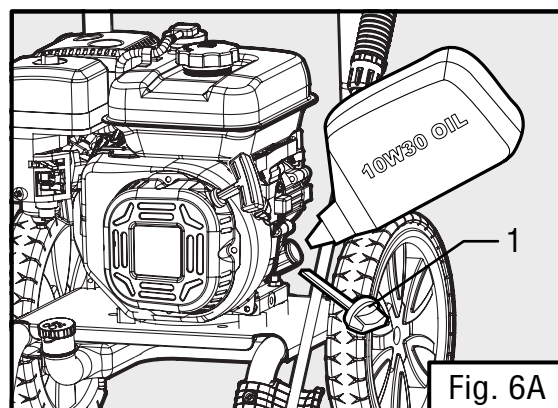

Fig. 6A
TO ADD OIL, FOLLOW THESE STEPS: (FIG. 6A & 6B)
2. Remove the dipstick (Fig. 6A - 1) from the engine.